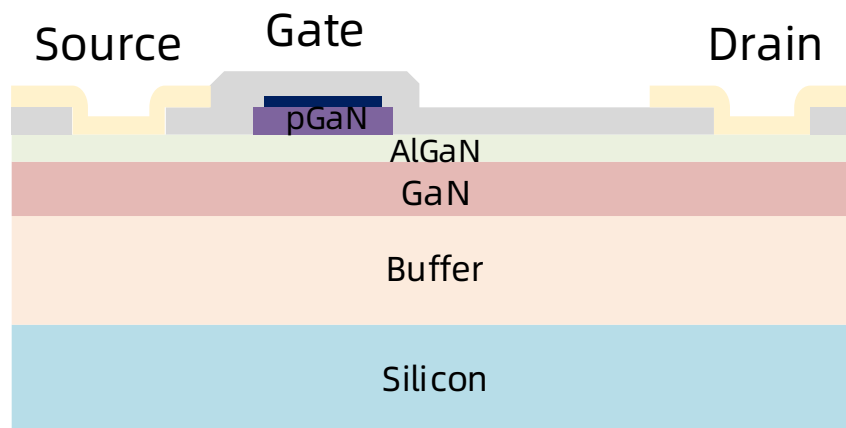

Figure 1 Schematic Diagram of LV InnoGaN Structure
Figure 1 illustrates the schematic structure of InnoGaN, which is a GaN HEMT with p-GaN enhanced gate. When the built-in voltage generated by the p-GaN structure exceeds the voltage induced by the AlGaN/GaN heterojunction beneath it, the two-dimensional electron gas (2DEG) under the gate is depleted, forming an enhanced gate. The p-GaN structure can be considered as a pair of Schottky junction and a PN junction back-to-back in series connection. Currently, the maximum long-term positive gate bias voltage for low-voltage (LV) InnoGaN products is 6V. For detailed gate voltage ratings, please refer to product datasheets. The specifications for LV InnoGaN can be found on Innoscience website - Products.